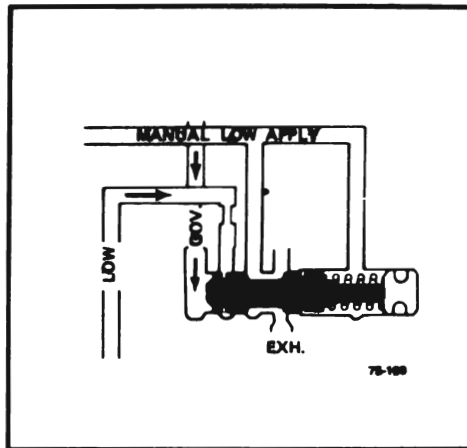

Figure 75-27 - Manual Low Control Valve
o. Manual Low Control Valve (See Figure 75-27)